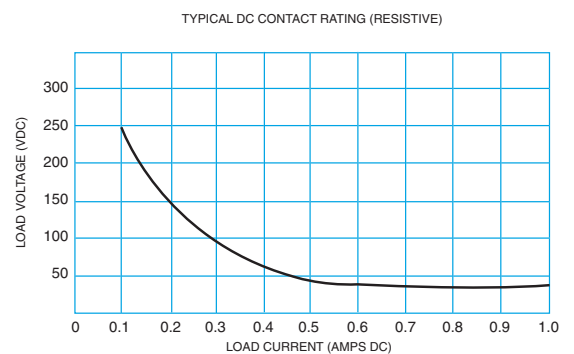

FIGURE 2
Contact Load Ratings (DC) (See Fig. 2 for other DC resistive voltage/current ratings)	Resistive: 1 Amp/28Vdc Inductive: 200 mA/28Vdc (320 mH) Lamp: 100 mA/28Vdc Low Level: 10 to 50 µA/10 to 50mV